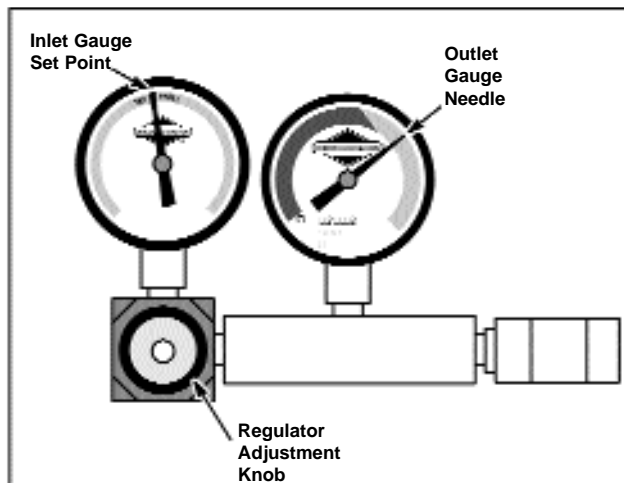

Figure 84 - Setting Tester
- With breaker bar held securely, slowly turn regulator adjustment knob clockwise until tester's inlet gauge needle is on the set point. Push in regulator lock nut. Note position of outlet gauge needle, Figure 84.